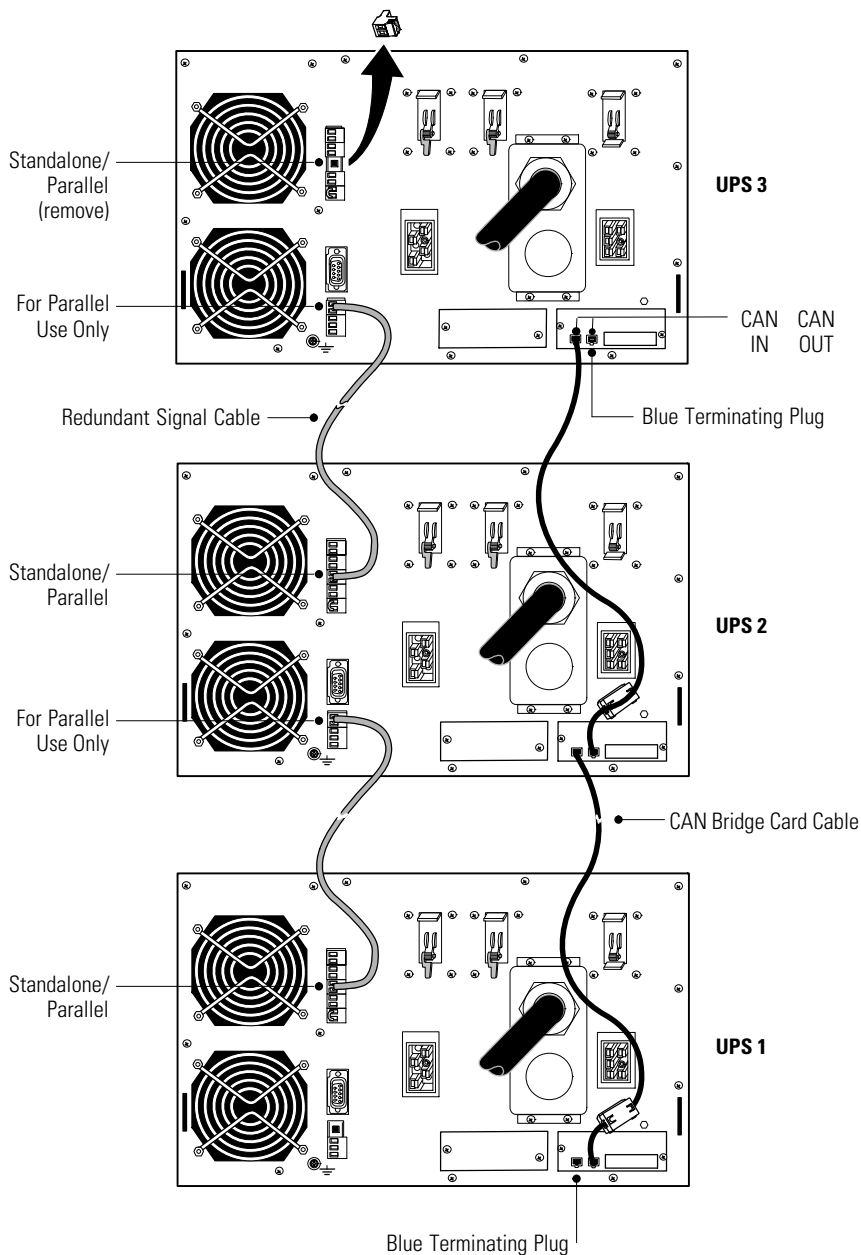

Figure 42. Typical CAN Bridge Card and Redundant Signal Wiring
- 10.** Verify that a blue terminating plug is installed in the CAN IN port on the first UPS (UPS 1 in Figure 42) and a blue terminating plug installed in the CAN OUT port on the last UPS (UPS 3 in Figure 42):
- 11.** If not already installed, using the supplied connectors, install a CAN Bridge Card cable between each UPS as shown in Figure 42, connecting the CAN OUT port on one UPS to the CAN IN port on the next UPS.
NOTE You can configure the parallel system with UPS 1 at the bottom of the rack (as shown in Figure 42) or at the top of the rack.
- 13.** Install a redundant signal cable between the For Parallel Use Only and Standalone/Parallel terminals on each UPS as shown in Figure 42.
- 14.** Remove the Standalone/Parallel terminal block connector from the last UPS (UPS 3 in Figure 42).